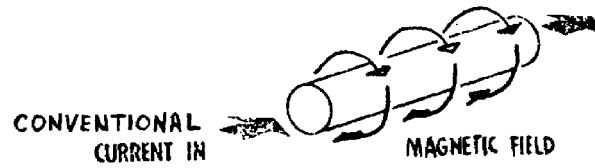

Figure 13. Magnetic field around wire.
b. Electricity and magnetism are very closely associated, because when electric current passes through a wire a magnetic field is created around the wire (fig 13).